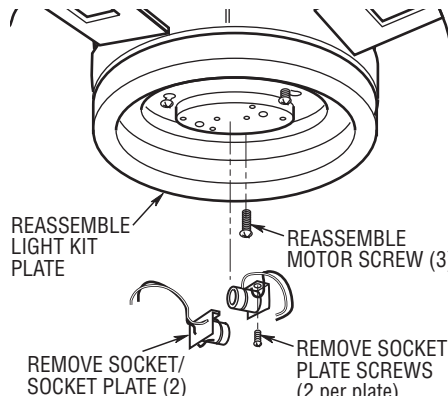

Figure 23
3. Cut light socket wires using wire cutters. Unscrew the screws that is securing the socket plates to the light kit plate. Pull socket wiring through light kit plate holes to completely disengage the light sockets from light kit plate (Figure 23).